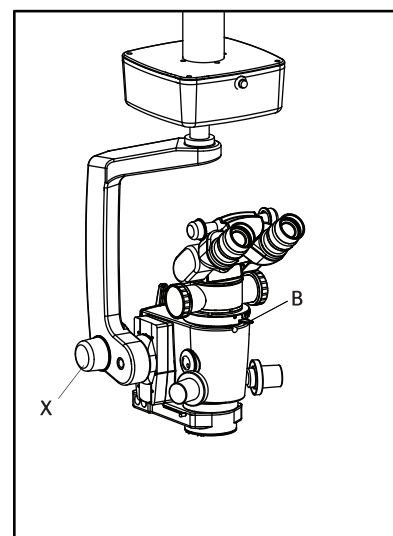

Fig. 29
To improve depth of focus, use iris controller. refer (B) fig 29